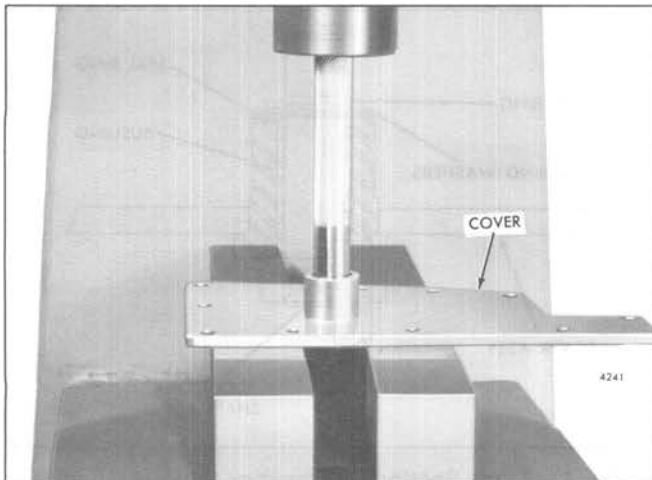

Fig. 5 – Removing Stop Lever Shaft Bushing from the Governor Cover using Tool J 21967-01
- f. If bushing removal is necessary, support the inner face of the cover over the opening in the bed of an arbor press. Place the remover J 21967-01 on top of the stop shaft bushing and press the bushing out of the cover (Fig. 5).